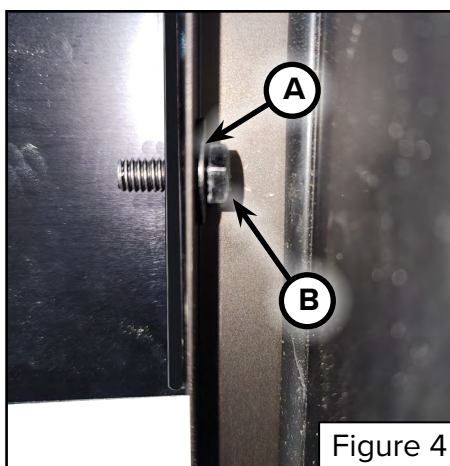

Figure 4
2. Apply a strip of 3/4" x 0.125" butyl tape (P/N 113822) (Figure 6A) to the face of the mounting bracket that will contact the roof membrane (Figure 7A). Make sure the butyl tape covers all screw holes (Figure 4).